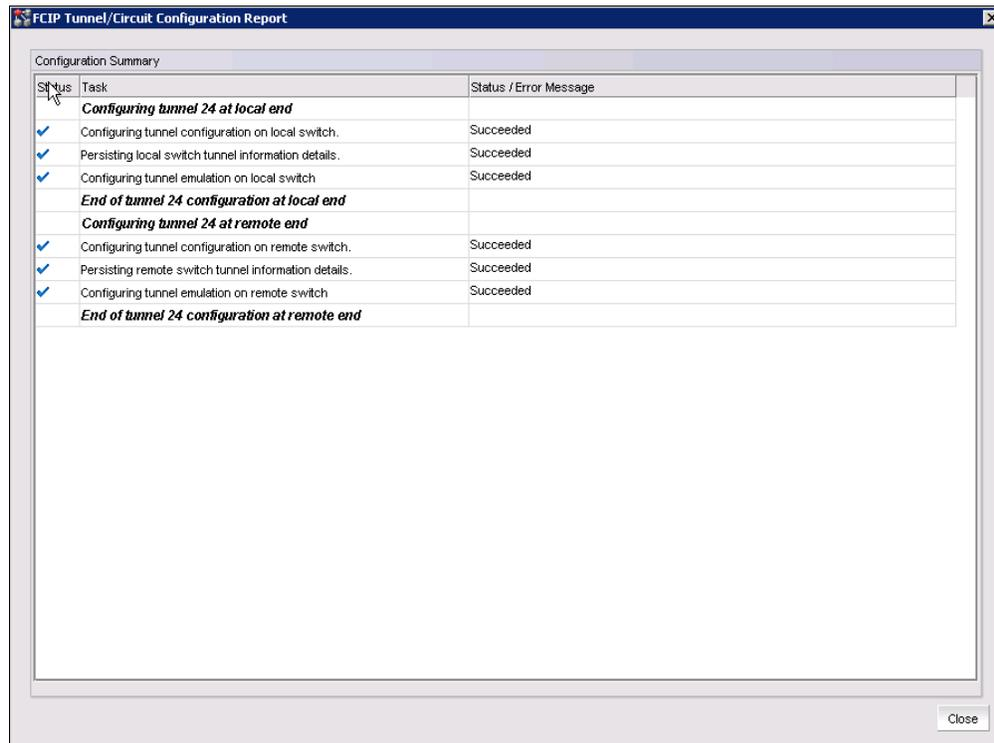

Figure 4-15 QoS configuration is complete
4. Click **OK** to confirm the setting (Figure 4-15).